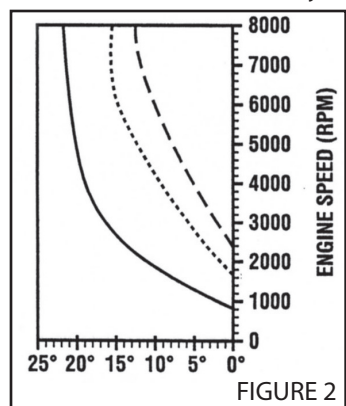

FIGURE 2
5. Using graph in Figure 2, select the springs which correspond to desired advance curve.